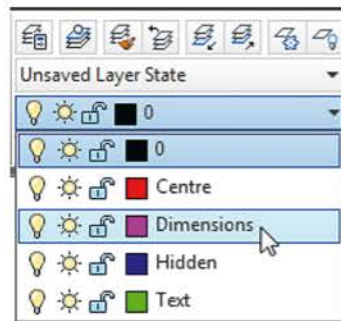

Fig. 12.9 The Home/Layers panel – making Dimensions layer current
2. Make the **Dimensions** layer current from the **Home/Layers** panel (Fig. 12.9).